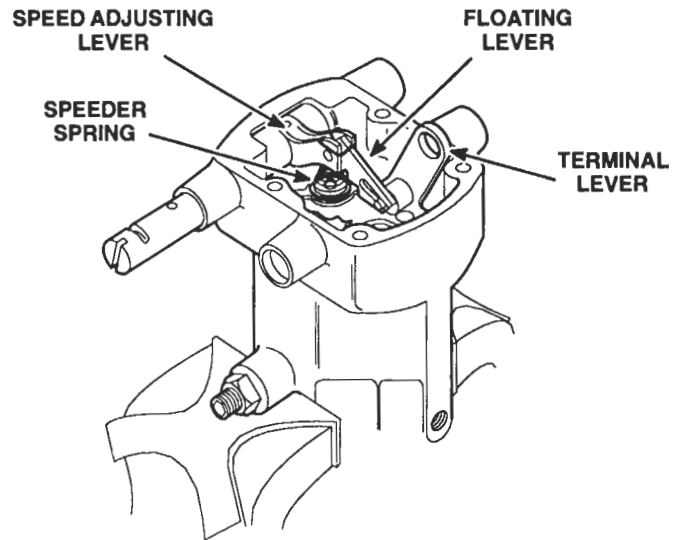

Figure 10. Removing Speed Adjusting Lever, Floating Lever, Spring Fork, Speeder Spring and Pilot Valve Plunger Assembly
10. Lift the speed adjusting lever, floating lever, spring fork, speeder spring and pilot valve plunger as an assembly from the governor housing (Figure 10.)